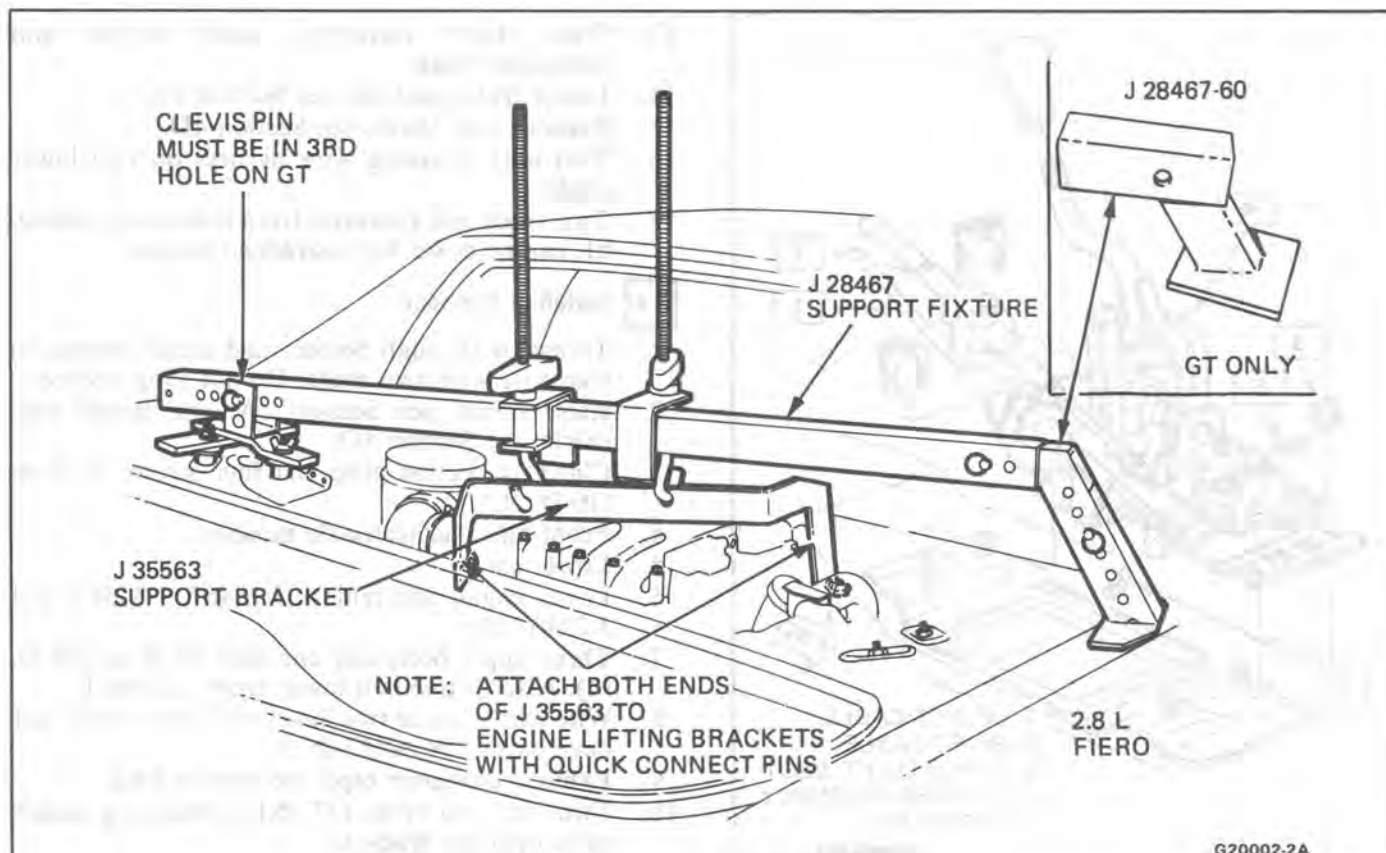

Fig. 7 Special Tool Engine Support
10. Install J 28467, J 35563, J 28867-60 GT only, engine support fixtures. Attach fixture hook to engine lift ring and raise engine enough to take the pressure off the mounts (Figure 7).
3. Install J 28467, J 35563, J 28467-60 GT only, engine support fixture. Attach fixture hook to engine lift ring and raise engine enough to take the pressure off the mount (Figure 7).